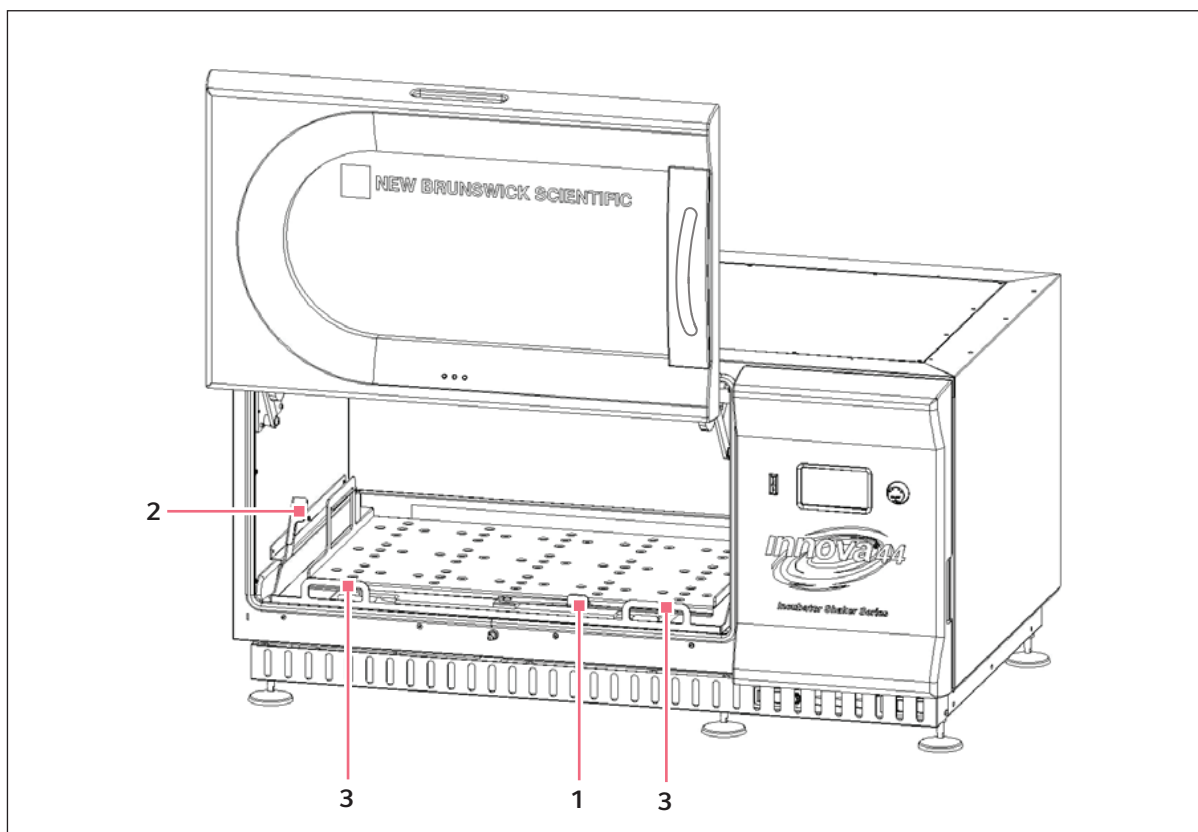

Fig. 8-2: Install Slide-Out Platform
1. With reference to figure below (see Fig. 8-2 on p. 40), place the platform on the sub-platform, making sure the two slots in the back of the platform are inserted under the sub-platform's blocks in the back, and the slide-out tray handles are at the front edge, facing up.